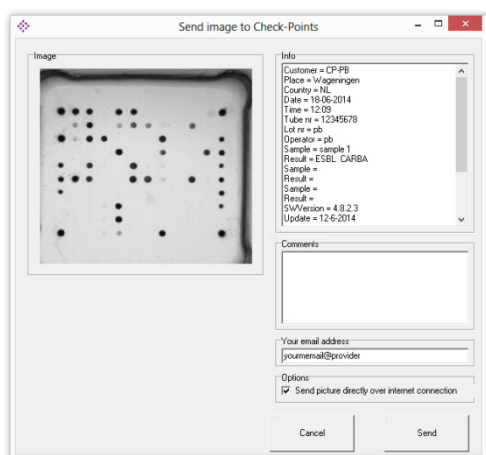

Figure 8: "Send image to Check-Points" pop-up.
- For support concerning results please send the result image along with the desired information to **support@check-points.com**. For this purpose double click on the result(s) in question in the result summary window. A pop-up will appear (see figure 8) in which your comments may be added to the file.